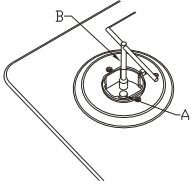

Fig 6
- Replace the injectors with the corresponding injector from the table on page below.(see fig. 6). First remove the burner caps and rings and with a socket spanner "B", unscrew Injector "A" (see fig. 6).